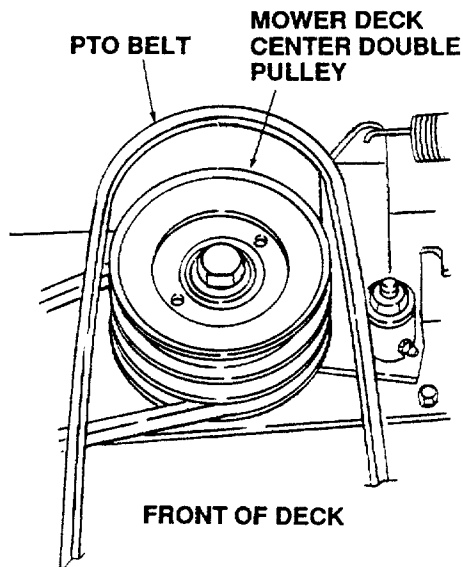
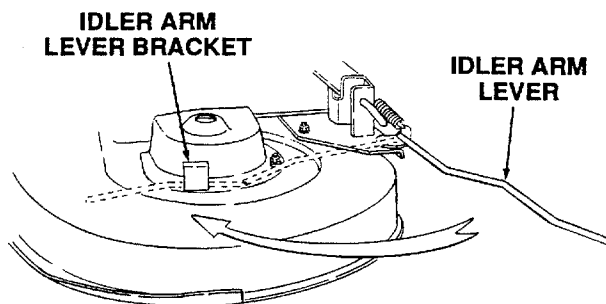

Figure 40
Figure 41
3. Remove the rearward end of the PTO belt from the upper pulley of the deck center double-pulley (Refer to Figure 40). Engage the deck idler arm lever back into its stop bracket (See to Figure 41).